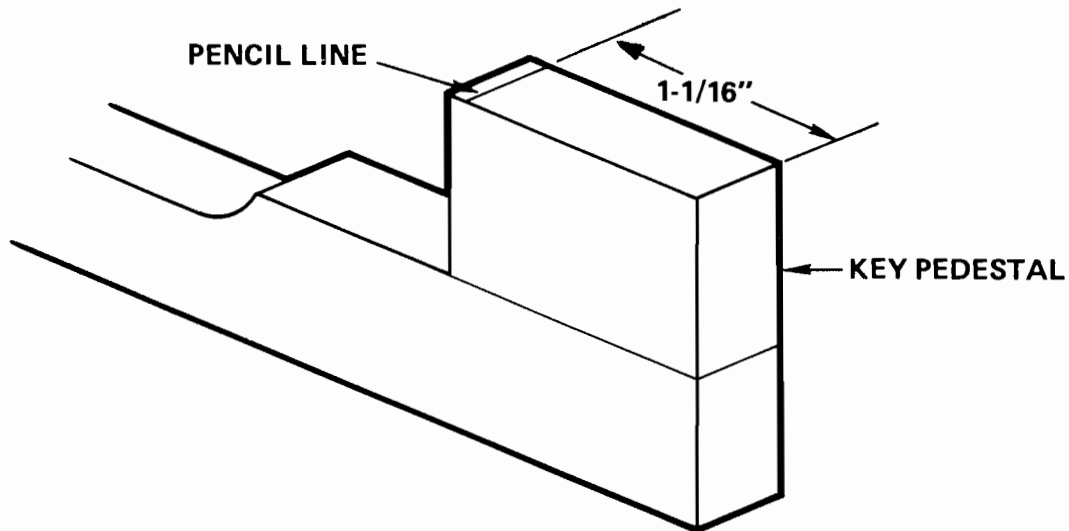

Figure 6-4. Key Pedestal — Pencil Line Dimension
10. Scribe a pencil line along the top of each Key Pedestal  $1\text{-}1/16''$  (26.988mm) from the rear surface farthest from the Key Cap (Figure 6-4).